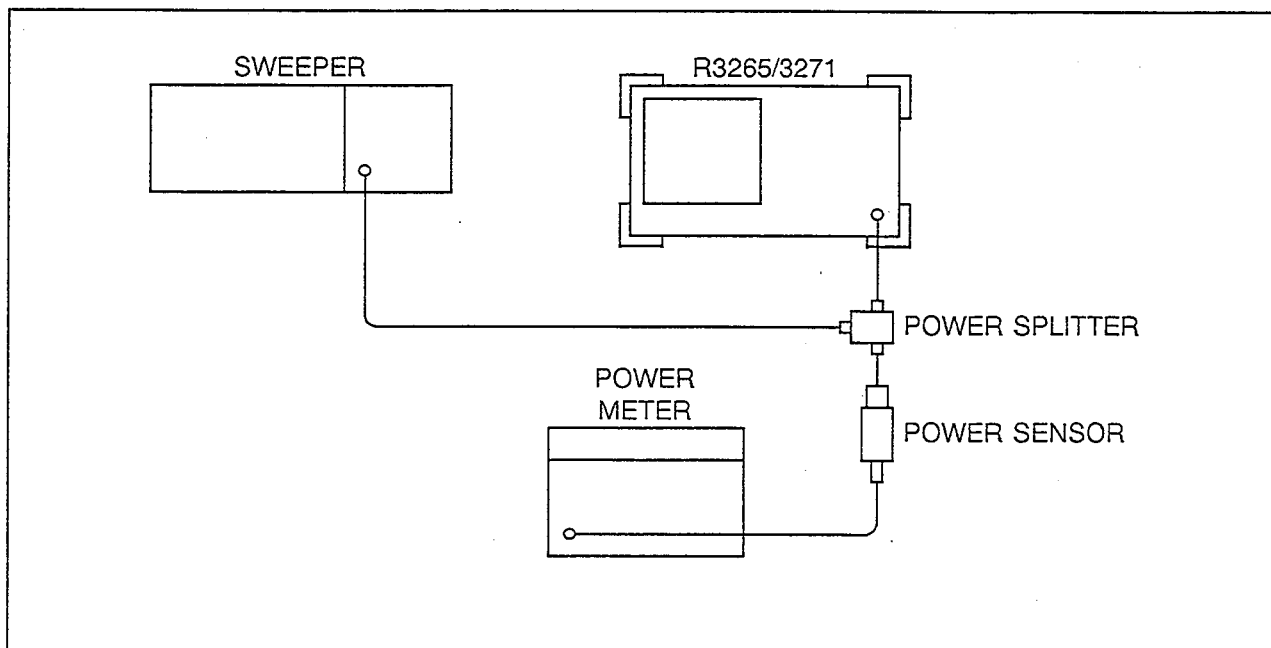

Figure 4-13 Image, Multiple and Out-of-Band Response Test Setup
(1) Connect the equipment as shown in Figure 4-13, but do not connect the power sensor.
(2) Press the INSTR PRESET key on the sweeper and set the controls as follows: